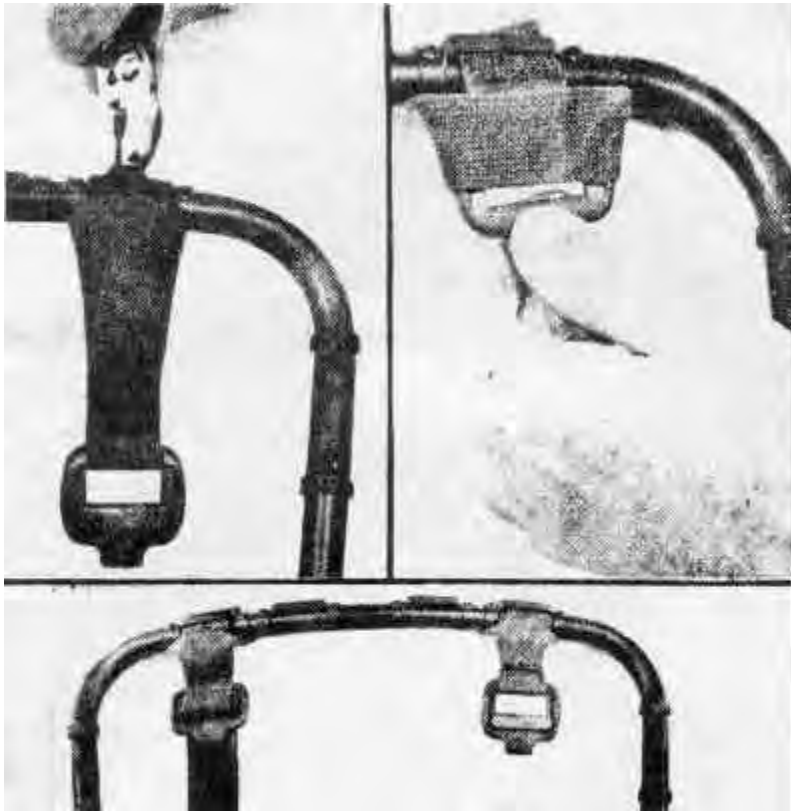

Figure 2-4 Assembly
1. Sliding bar plastic buckles are used for attachment of most of the strap components to the frame. Figure 2-4 show the sequence of operations for threading a strap through the buckle.